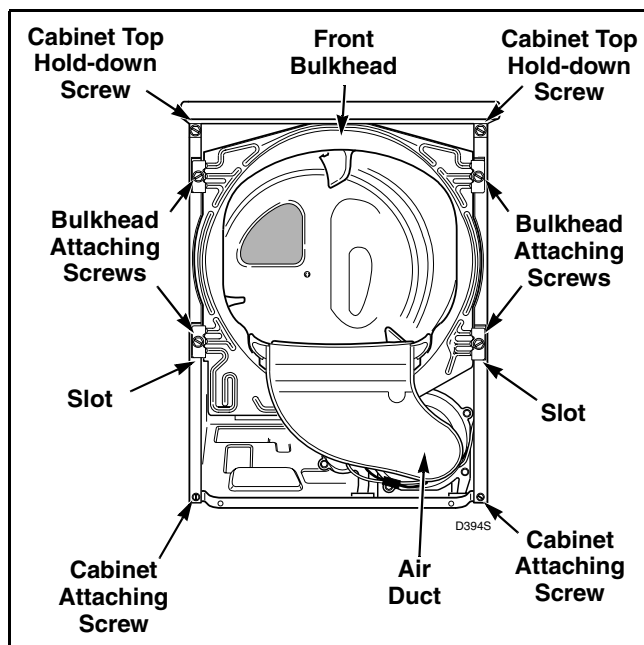

Figure 30
- Remove four screws holding bulkhead to front flange of cabinet and lift complete bulkhead assembly out of slots in cabinet. Refer to *Figure 30*.
- f. Remove four screws holding bulkhead to front flange of cabinet. Then, lift complete bulkhead assembly out of slots in cabinet. Refer to *Figure 30*.
- f. Remove four screws holding bulkhead to front flange of cabinet. Then lift complete bulkhead assembly out of slots in cabinet. Refer to *Figure 30*.
- g. Remove two cabinet top hold-down screws. Refer to *Figure 30*.
- e. Remove two cabinet top hold-down screws. Refer to *Figure 30*.
- h. Remove four screws holding bulkhead to front flange of cabinet. Then, lift complete bulkhead assembly out of slots in cabinet. Refer to *Figure 30*.